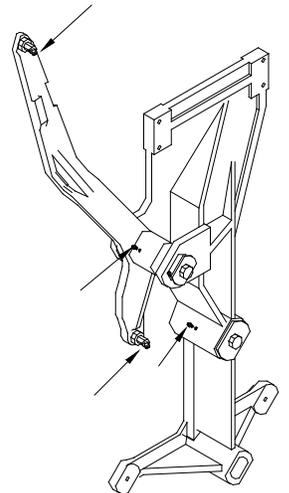

FIGURE 1
THERE ARE (4) GREASE FITTINGS LOCATED ON THE ROCKER ARM AND DIVIDER FRAME, (FIG. 1). THESE FITTINGS SHOULD BE LUBRICATED ONCE A WEEK FOR OPTIMUM BEARING LIFE.